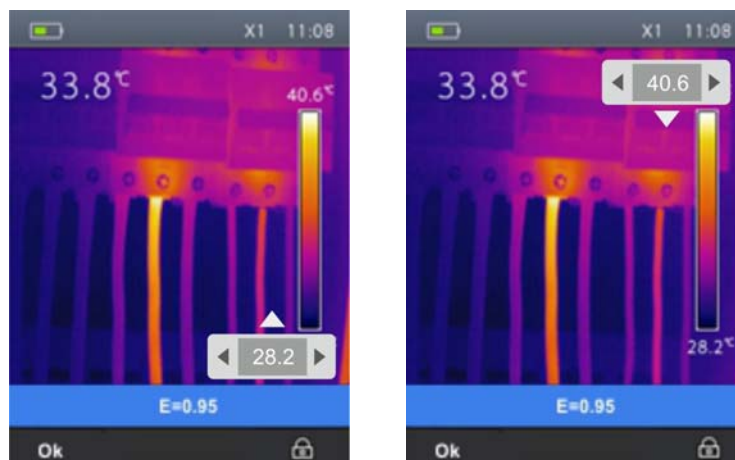

Fig. 23: Setting the adjustment mode of image temperature
2. Press and hold the key for 2 seconds. The following screen (see Fig. 23 – Left side) is shown on the display.
3. Press the key to go to the upper level of the color palette (see Fig. 23 – Right side).